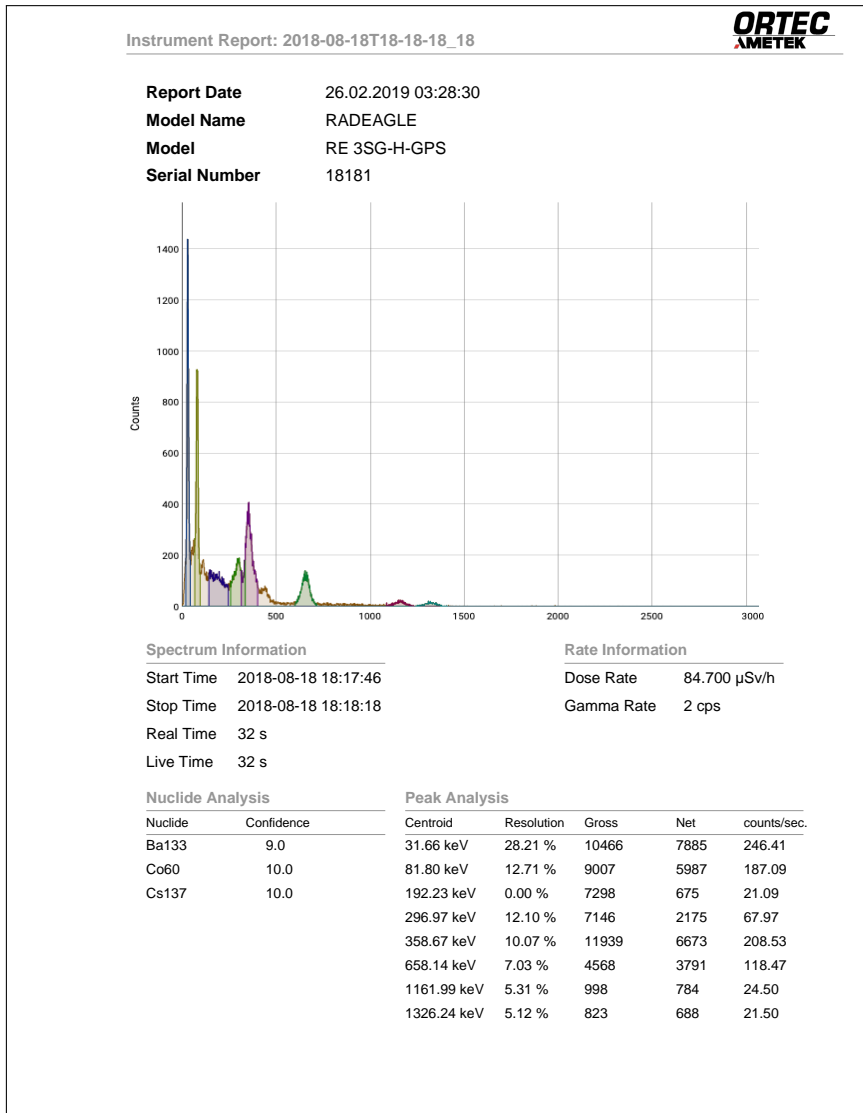

Figure 113: PDF report of a spectrum
1. Click . Depending on your Web browser configuration, the pdf document will be opened in the browser or downloaded into the usual location for downloads. An example is shown in Fig. 113, p.98.